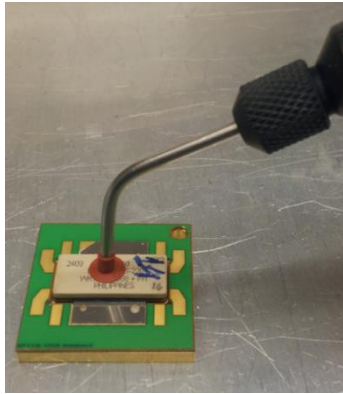

Fig 46. Package removal using a vacuum pipette
- High mechanical forces shouldn't be applied to remove or move component, this can compromise future failure analysis on the component or/and PCB. It is recommended to use vacuum pipette (ESD safe), example shown in Fig 46.